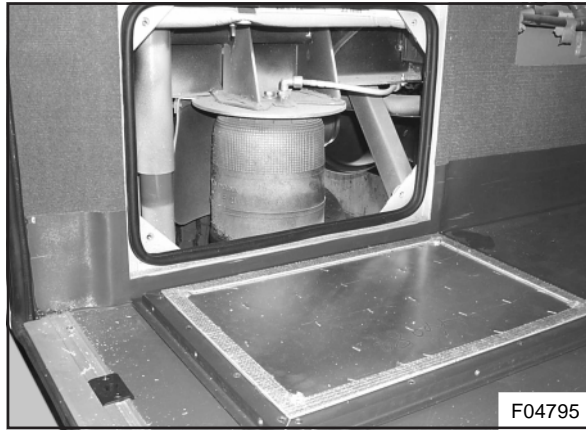

Figure 6 : Access to foremost suspension bellows
11. Inside the luggage compartment, remove both panels giving access to the foremost suspension bellows (see Figure 6).